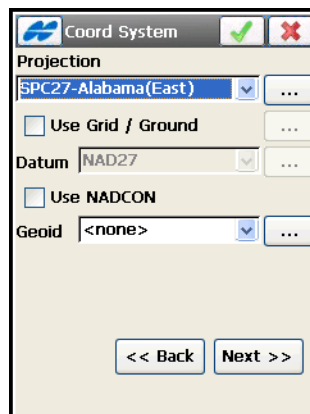

Figure 4-84. Coordinate System
1. On the *Coordinate System* screen, set the parameters of the coordinate system used: the projection, the Datum, and/or Geoid, then tap **Next** (Figure 4-84).
2. To manipulate projections/datums/geoids, tap the **List**  button (Figure 4-84 on page 4-65) in the corresponding field (for these operations, see the sections below). For SPC27 projection, select the *Use NADCON* box to make coordinates match the same in Corpscon if necessary.
From the *Coordinate System* screen (Figure 4-84 on page 4-65), select a projection from the drop-down list in the Projection field or add a projection by tapping the **List**  button next to the *Projection* field.
1. To add a datum, tap the **List**  button from the drop-down list in the *Datum* field on the *Coord System* screen (Figure 4-84 on page 4-65). The *Custom Datums* screen displays (Figure 4-89 on page 4-70).